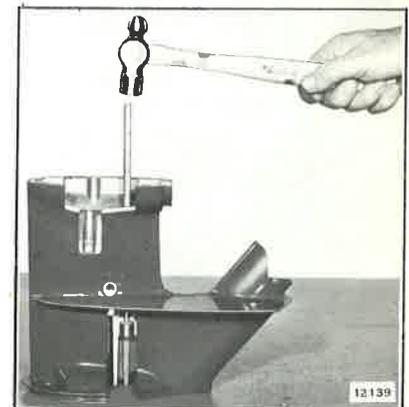

Figure 6-16. Removing Shift Rod Bushing
g. Remove carbon, and pull lower shift rod from upper gearcase. Drive out shift rod bushing and "O" ring with Bushing Punch (Special Tool #304514). See Figure 6-16. Remove driveshaft seal, using Seal Puller (Special Tool #377565). See Figure 6-17.